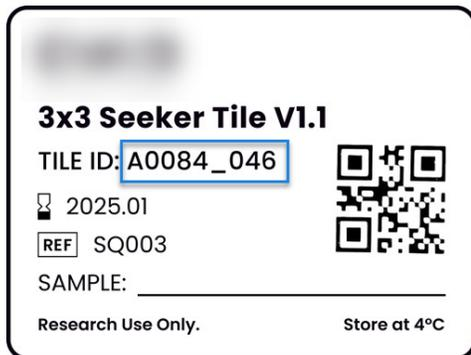

Figure 5. Example Seeker Tile label to identify the tile ID. The tile ID, A0084\_046, is indicated by the blue box.
4. Record the tile ID (e.g., A0084\_046) of the Seeker tile as shown in the example in Figure 5.